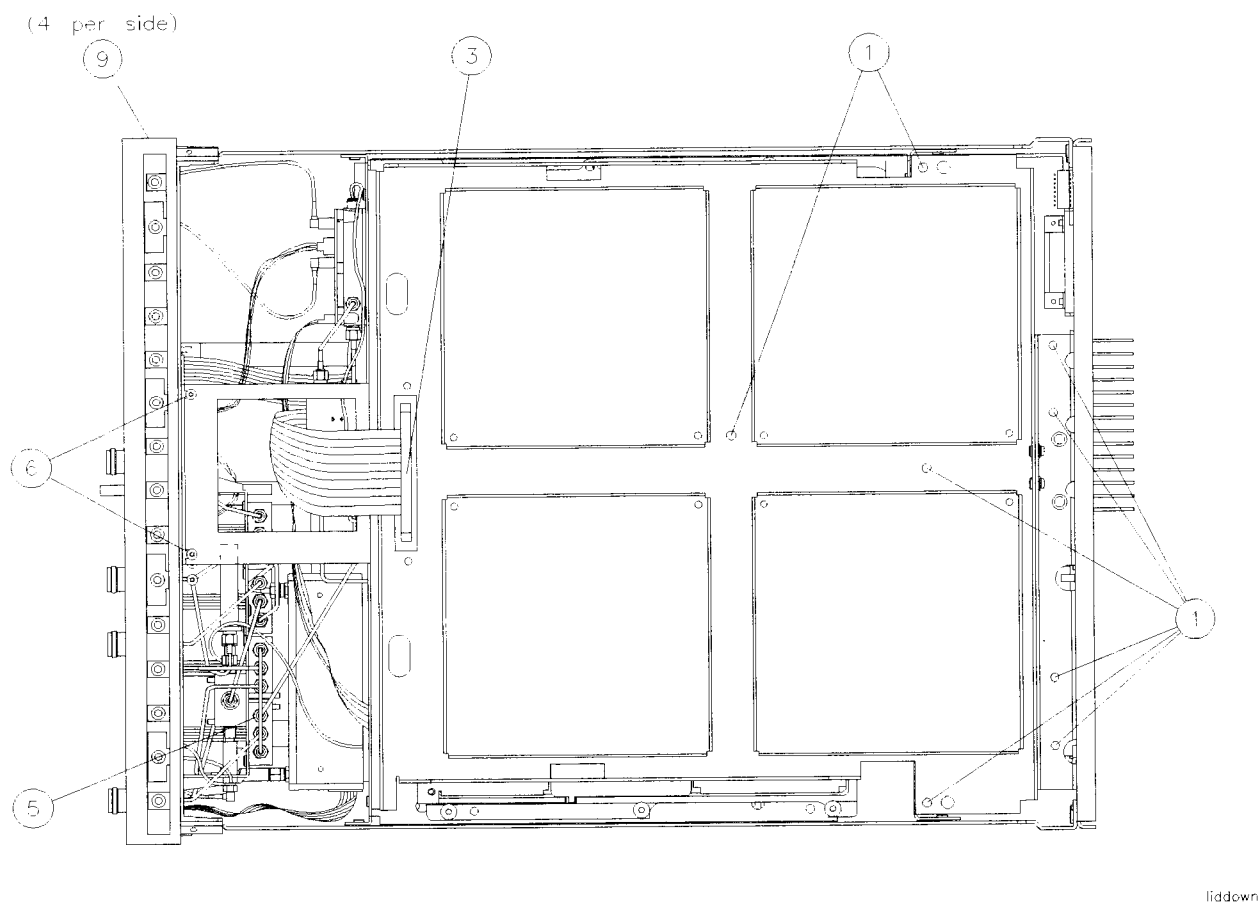

Figure 4-2 Top View, Lid Down
3. To access the components underneath the top lid, remove eight screws on the front (1). Refer to Figure 4-2 on page 4-7.
6. Disconnect the ribbon cable that goes to the J5 connector on the front strut (3). Refer to Figure 4-2 on page 4-7.
8. Disconnect the semi-rigid cable (W13) that goes from the front-panel switch assembly to the A18 AmpVar assembly at the switch assembly (5). Refer to Figure 4-2 on page 4-7.
9. Remove the two screws from the front strut (6).
3. Connect the two semi-rigid cables that attach to the attenuator (8).
4. Replace the two screws on the front strut (7).
5. Carefully turn the instrument over and replace the two screws on the front strut (6). Refer to Figure 4-2 on page 4-7.
6. Connect the semi-rigid cable (W13) that goes from the front-panel switch assembly to the A18 AmpVar assembly to the switch assembly (5).
8. Connect the ribbon cable that goes to the J5 connector on the front strut (3). Refer to Figure 4-2 on page 4-7.
11. Replace eight screws on the front (1). Refer to Figure 4-2 on page 4-7.